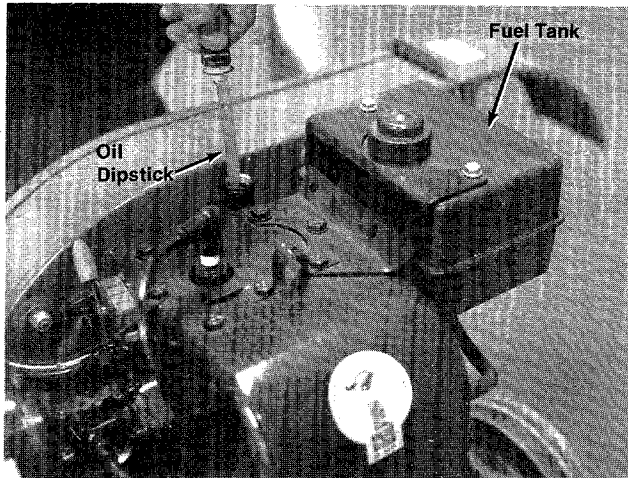

FIGURE 13.
1. Fill fuel tank with fresh regular gasoline. (See figure 13.)
2. Fill crankcase with oil. (See figure 13.)
Position equipment so that engine is setting level. Remove dip stick or oil filler plug (Figure 13). Pour oil into oil filler tube from which dip stick was removed and fill to FULL mark on dip stick. Do not overfill. After initial filling follow instructions on dip stick. Be sure dip stick is screwed into filler opening as far as it will go when measuring oil level.